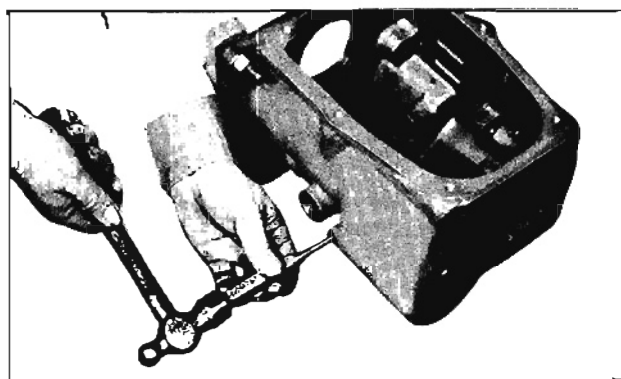

Fig. 7-18 Driving Lock Pin Into Idler Shaft
23. Drive the reverse idler gear shaft lock pin into the shaft. (Fig. 7-18)